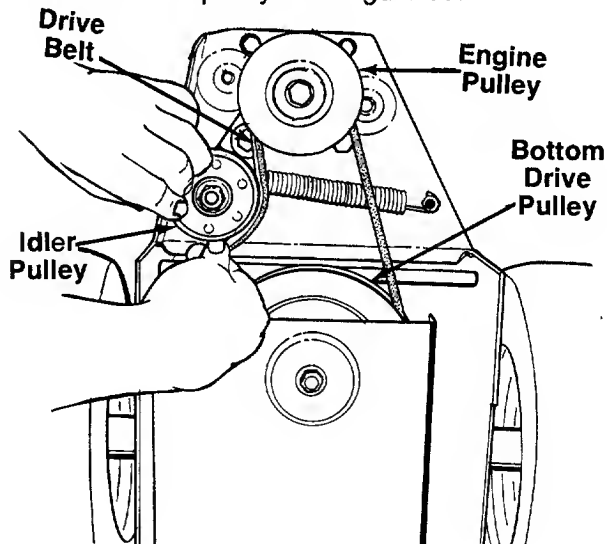

FIGURE 33.
2. Disconnect the extension spring at the engine plate. See figure 33.
3. Remove the drive belt from the engine pulley and bottom drive pulley. See figure 33.